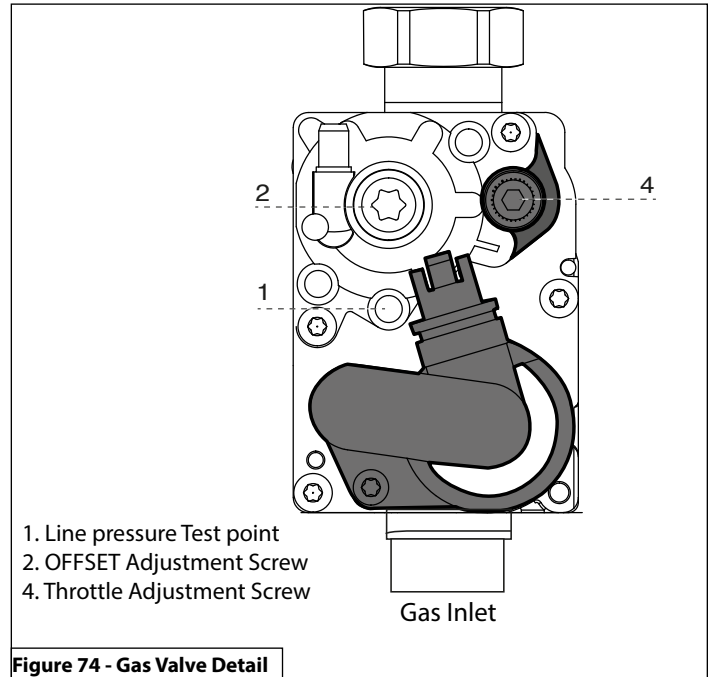

Figure 74 - Gas Valve Detail
**NOTE:** Refer to Figure 74 when checking gas pressure. Loosen the bolts before checking the gas inlet pressure.